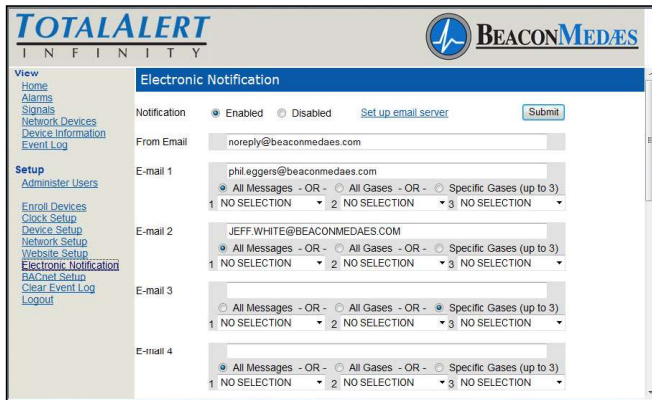

Figure 200: Electronic Notification Setup Page
An SMTP e-mail server must be configured in order for Electronic Notifications to function. Click “Set Up Email Server” to configure the server (Figure 200).
1. Click Electronic Notification to access the Electronic Notification setup page (Figure 200).